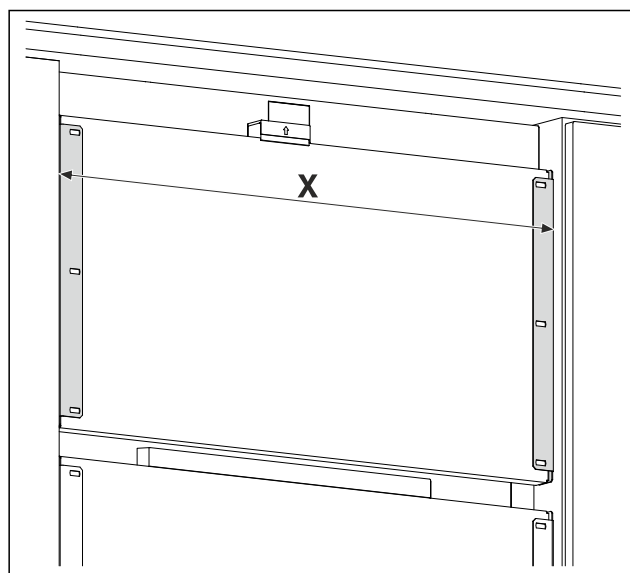

Fig. 19 Example illustration
- Measure the distance Fig. 19 (X) from the outside edge of the bracket angle.